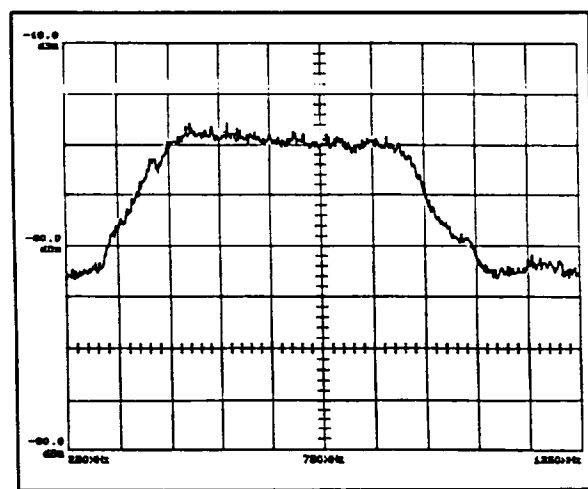

Figure 12 Converter Spectrum
2. Set the converter module gain to the maximum. Set the analyzer input attenuation to 0 dB. The analyzer should show a spectrum similar to that in Figure 12, below. It may be necessary to add amplification following the converter to overcome the noise level of the spectrum analyzer.